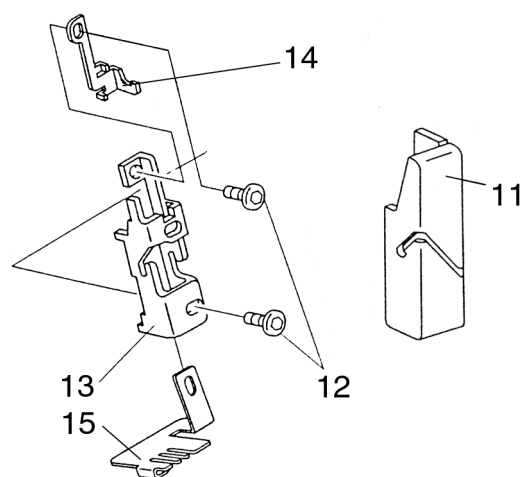

Fig. 6
- Pull the cover 11 slightly on the left and right sides and remove carefully (fig. 6).